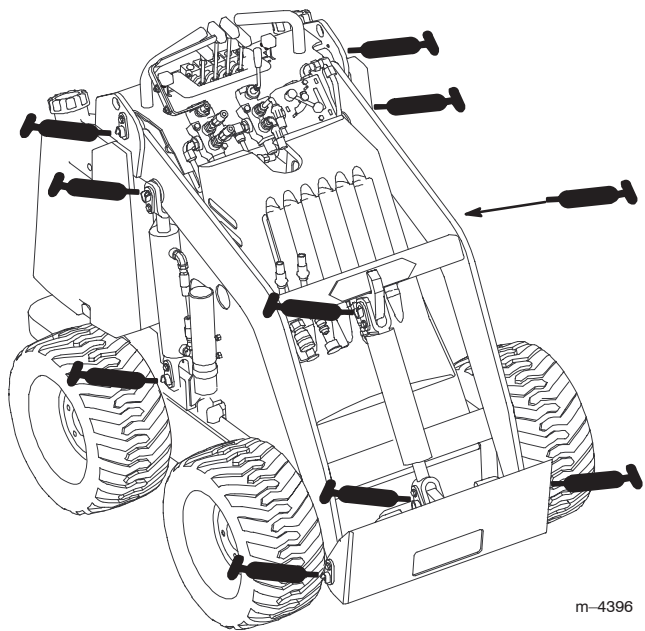

Figure 16
3. Connect a grease gun to each fitting (Fig. 16 and 17).